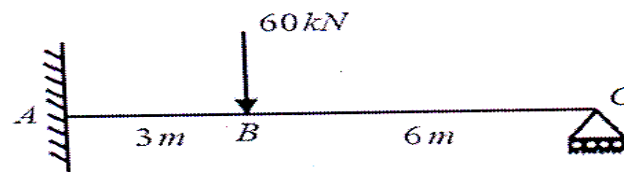

Figure 1
b) Analyse the beam ABC shown in Figure 1 using flexibility matrix method. AB = 3 m and BC = 6 m. Take EI = constant [6]